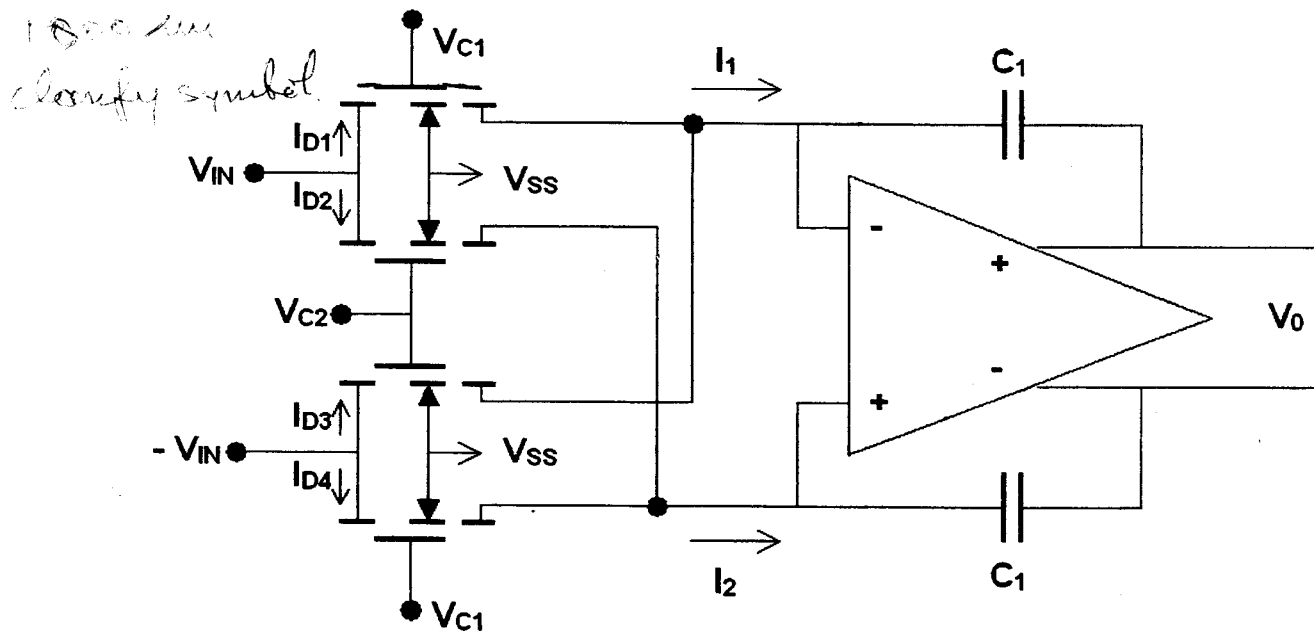

Figure 3.1
3. (a) Figure 3.1 shows a fully differential continuous time integrator using a balanced double differential linear active transresistor. Derive an expression for the time constant of the integrator. You may ignore all bulk effects, and assume all MOSFETs are operating in the triode region. [9]